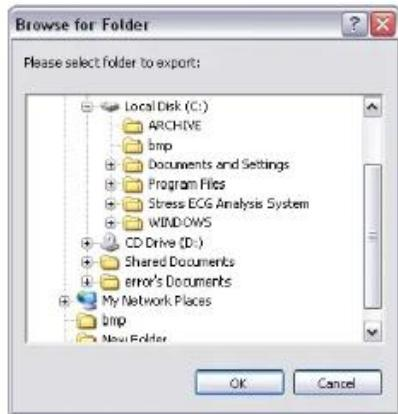

Fig.5-37 Export Archive 1
2. Click "Export" button, a dialog box as Fig.5-37 pops up for choosing the folder to save the export file: